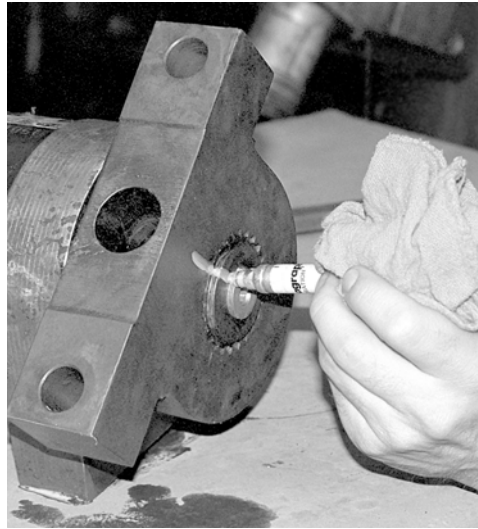

Figure 5-9. Torque Bracket and Shaft Alignment
7. Before removing torque bracket, mark the shaft and bracket for reassembly alignment (see Figure 5-9).